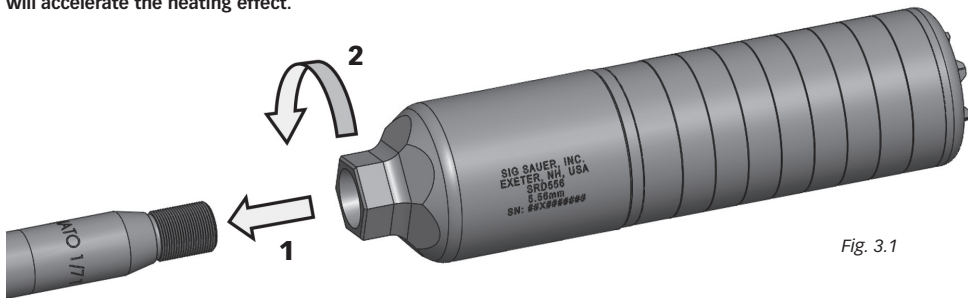

Fig. 3.1
- Being careful to avoid cross threading the parts, place the opening of the mount portion of the suppressor on the muzzle of the host firearm and screw the suppressor on firmly hand tight. If a torque wrench is available it is recommended to torque your suppressor to 25-30 ft lb (See Fig. 3.1).